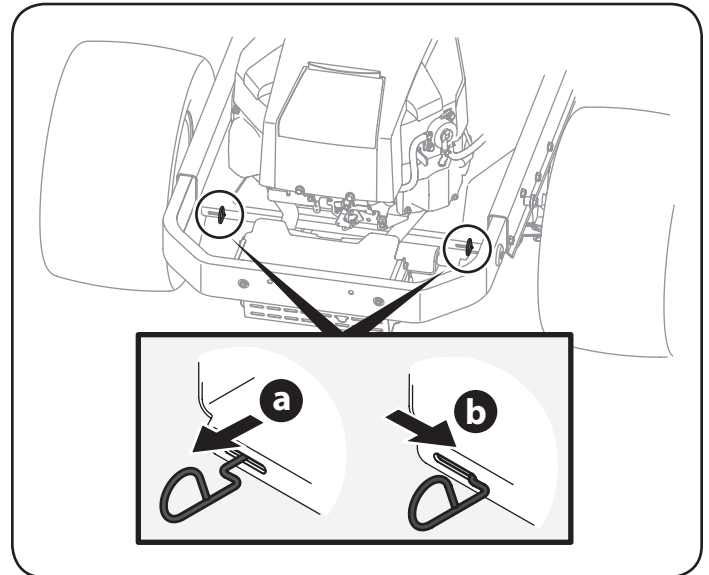

Figure 24
1. Locate the hydrostatic bypass rod in the rear of the riding mower. See Figure 24.
2. Engage the bypass rods by pulling each one out (a) and to the right (b) to lock it into place. See Figure 24.
3. Disengage the bypass rods by reversing steps a & b after moving the tractor. See Figure 24.